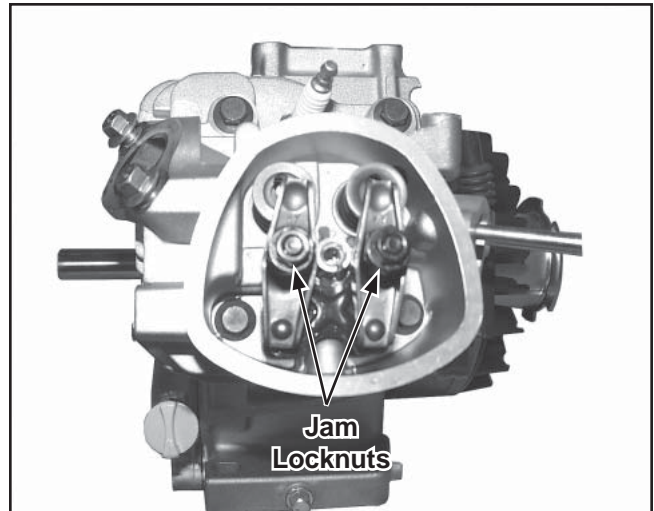

Figure 11-49. Installing Rocker Arms, Adjusters and Locknuts.
3. Assemble the rocker arms, adjusters, and locknuts onto the studs and push rods. Finger tighten the rocker arm pivot jam locknuts. See Figure 11-49.